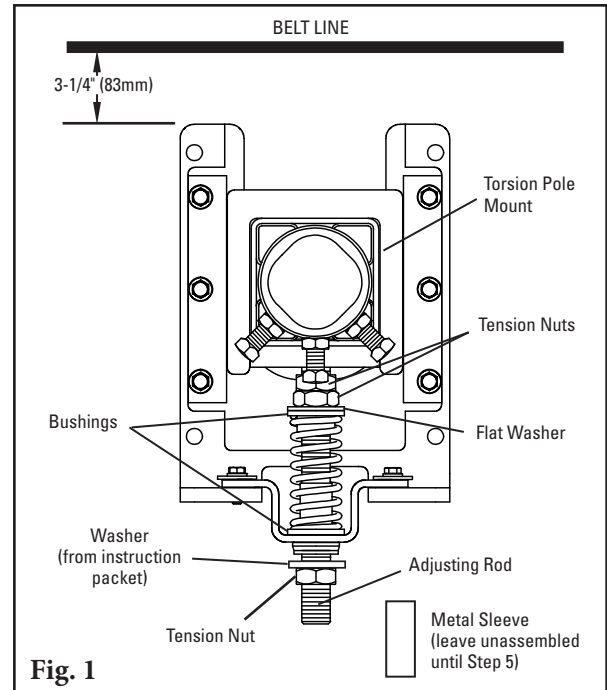

Fig. 1
- 1. Reconfigure the standard pull-up tensioner to the push-up style.** Remove the 3 tension nuts, the flat washer, 2 bushings, the spring, the sleeve and the hat bracket; reassemble (Fig. 1) with 2 tension nuts, the flat washer, 2 bushings, the spring and the hat bracket on the upper end of the adjusting rod. Add washer (from instruction packet) and 3rd tension nut to bottom of adjusting rod.
- 2. Install the tensioner mounting bases.** Mount the bases to the structure or chute so that the tops of the base legs are 3-1/4" (83mm) below the belt (Fig. 1).
1. **Disassemble guide kit.** Remove nuts and washers from both sides of tensioner (Fig. 1).